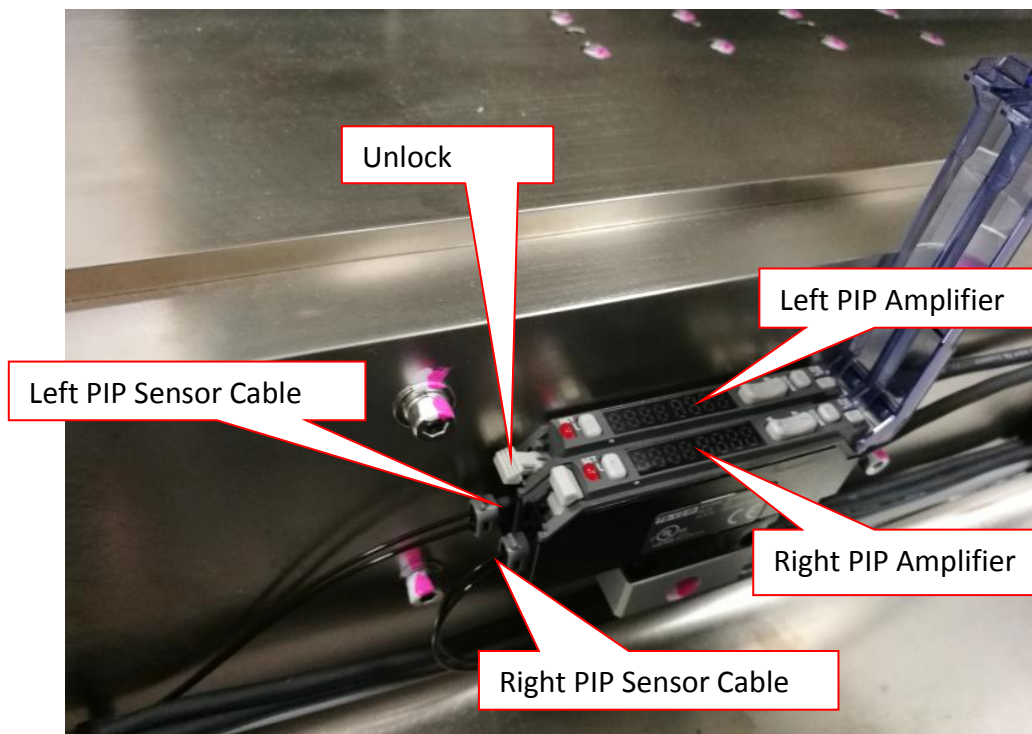

Figure 1 PIP Sensor Amplifier
3. Unlock & remove Defective PIP Sensor Cable Adapter from Left Amplifier as shown in Figure 1.